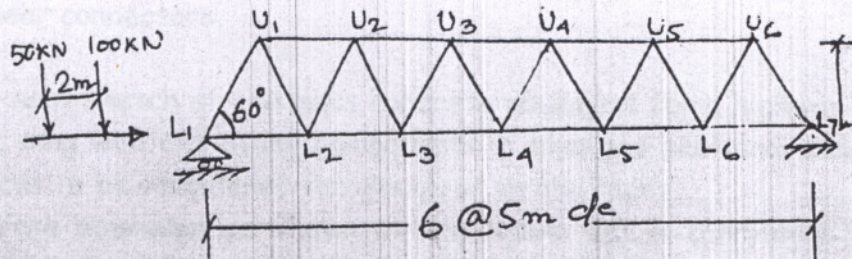

Figure Q3
3. A warren girder having a span of 30m consists of six equal panels. Draw the influence lines for forces in the members L_3L_4 , U_3U_4 , and U_3L_4 . Find also the maximum force in the member U_3L_4 due to train of loads shown in the figure Q3.